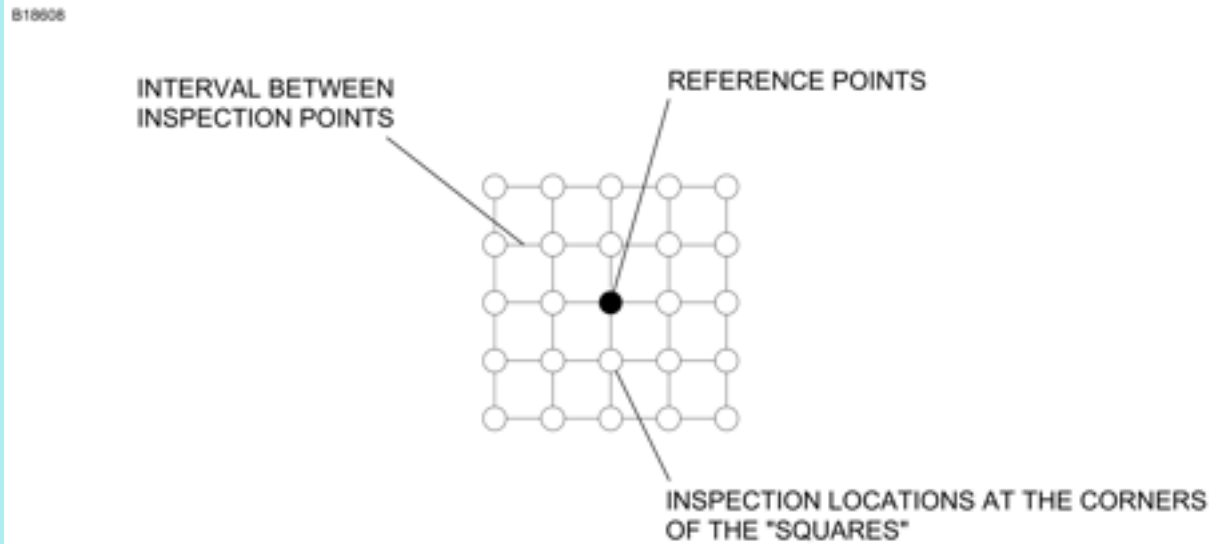

Figure 4
- 5 Locate the reference point at the corner of a square, refer to Figure 4. Take conductivity values working away from the reference point in the increments and distance found in Step 4. Enough information should be included along with the conductivity values so a person unfamiliar with the inspection can find the data point.
NOTE: Structural considerations may not allow the test points to follow the pattern of Figure 4. It